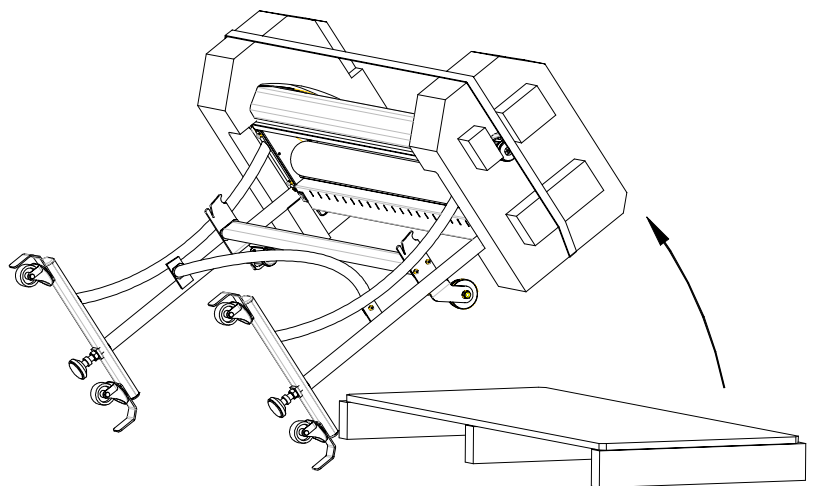

Figure 4
- Carefully lift the laminator (at least two people must do this!) from the pallet and position it onto its castors as shown in Figure 4.